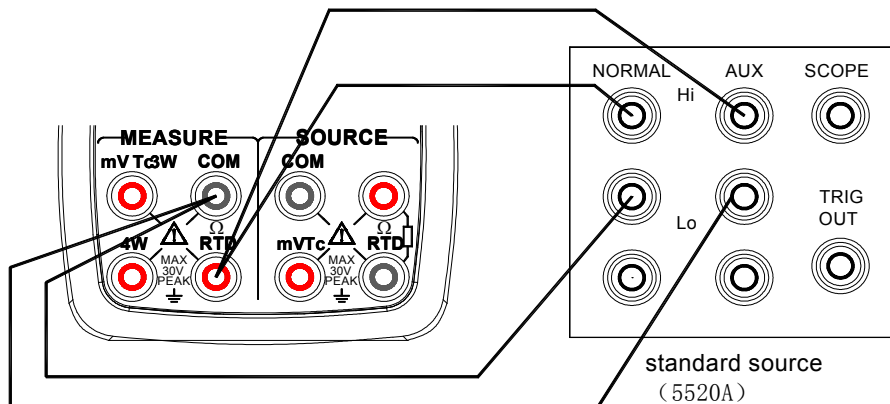

Figure 13 Calibrating all ranges of ohms
**Step 3:** Connect the lead cables to the output terminals of the standard source as shown in Figure 13.(The 2 wire compensation of 5520A must be open )